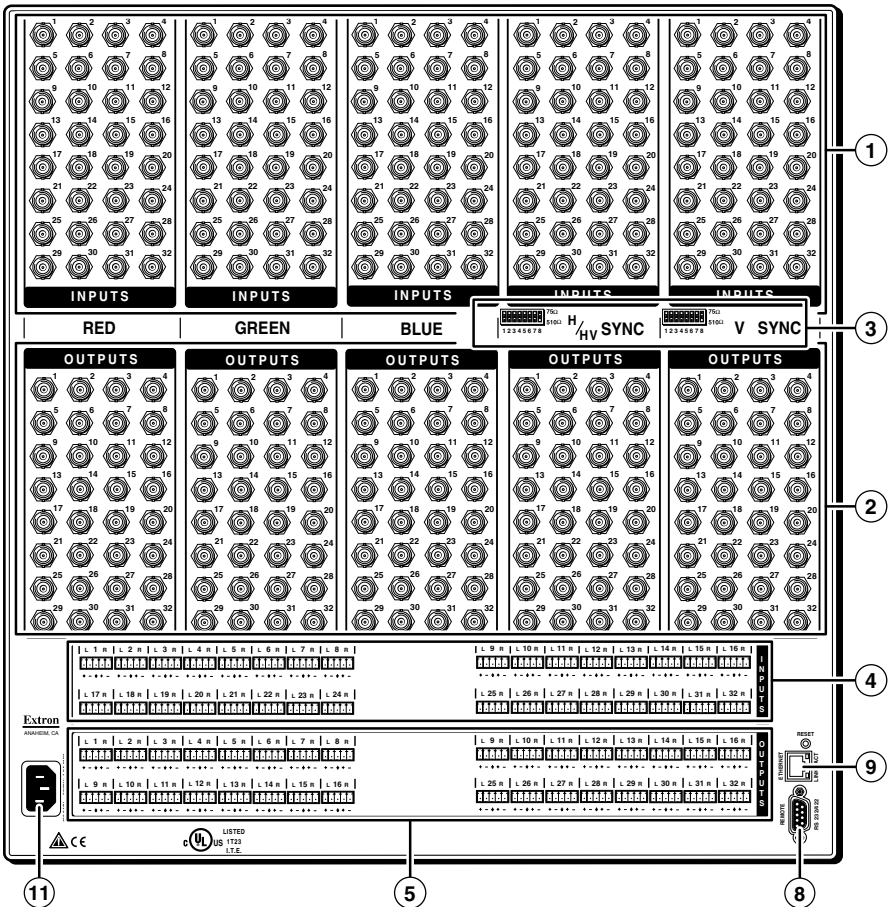
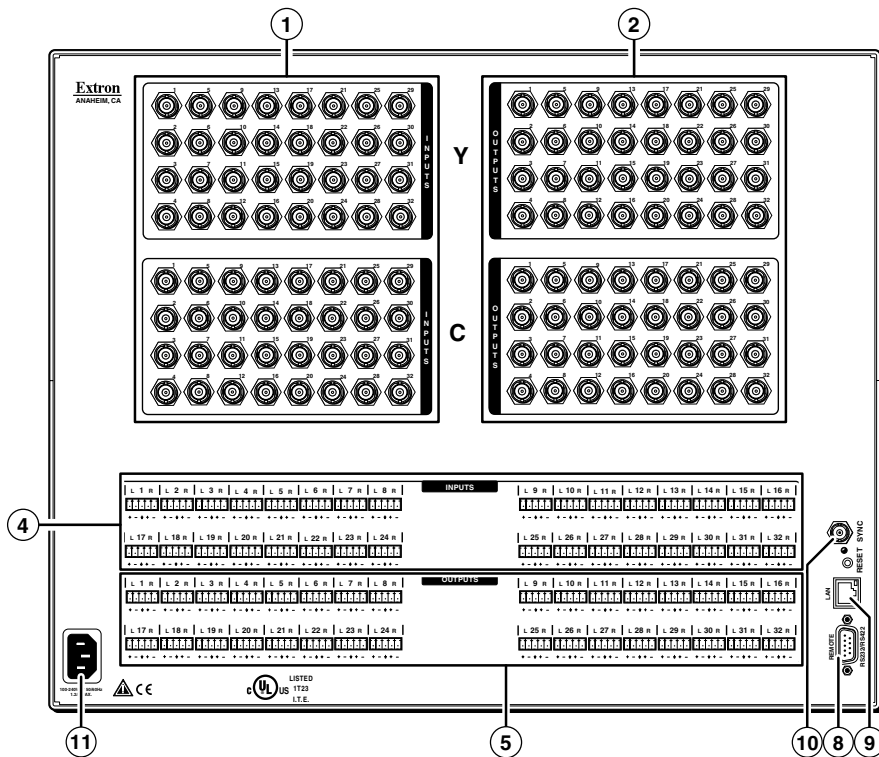
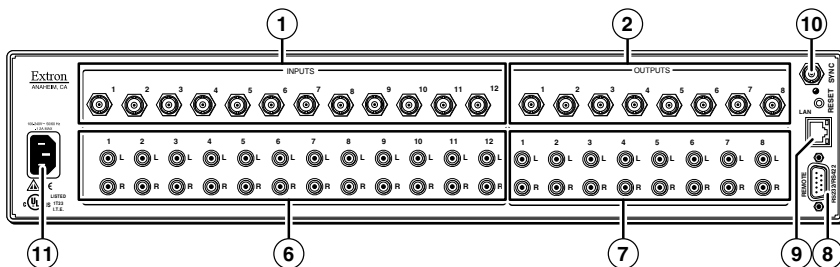

Figure 2. CrossPoint 450 Plus 3232 HVA Rear Panel
Figure 3. MAV Plus 3232 SVA Matrix Switcher
Figure 4. MAV Plus 128 AV RCA Matrix Switcher
- The CrossPoint 450 Plus switchers are housed in enclosures that range from 8U to 10U (see figure 2) to support their different video format and matrix sizes.
- Smaller matrix sizes within a form factor have fewer input and/or output connectors. The arrangement of connectors and features in switchers with different form factors is different from what is shown in figure 2.
NOTE: The MAV Plus switchers are housed in enclosures that range from 8U (see figure 3) to 2U (see figure 4) to support their different video format and matrix sizes. The arrangement of connectors and features in switchers with different form factors is different from what is shown in figure 2.